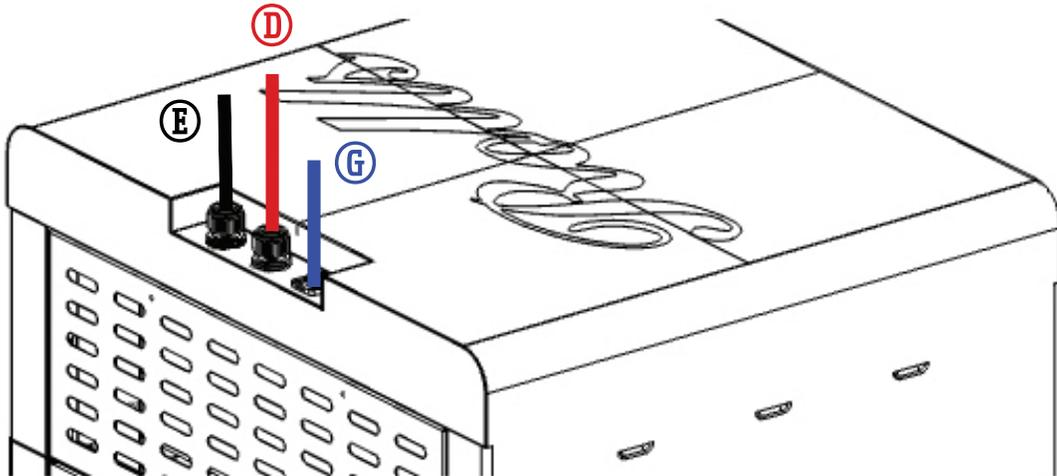

Figure 7.0
With the batteries installed and wiring connected, the Rolls LFP ESS cabinet may then be connected to an inverter and powered on using the input/output cables and 2m RJ45 Communication cable ⑥ as shown in Figure 7.0.